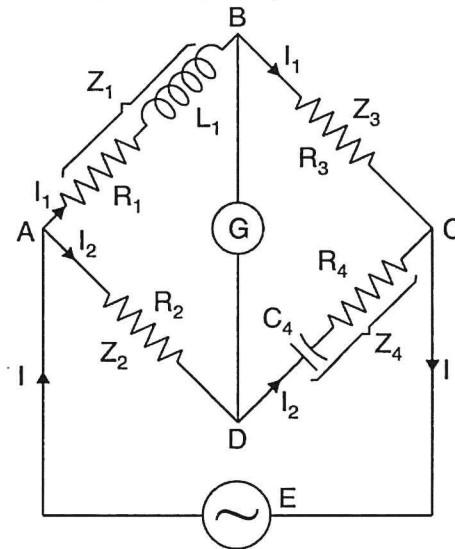

Fig. 5
- (a) The circuit in Fig. 5 is used to determine the inductance of the choke coil L_1, R_1 . When the bridge is fed from a source of 500Hz, balance is obtained under the following conditions: